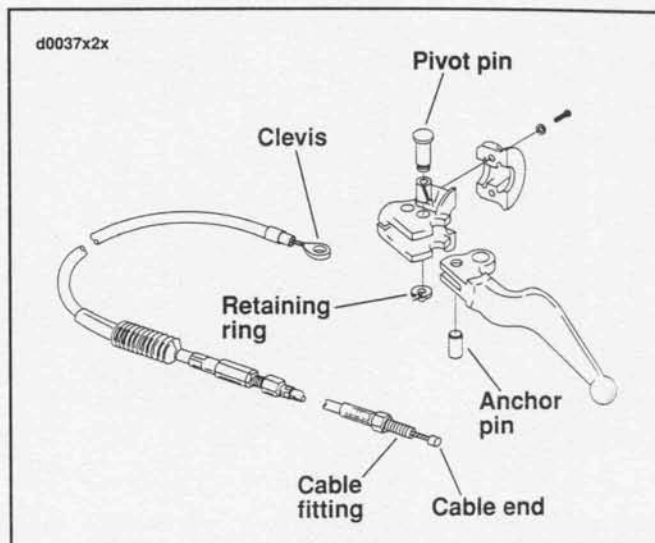

Figure 2-87. Clutch Cable Installation
4. See Figure 2-87. Remove hand lever pivot pin.
1. See Figure 2-87. Install the clutch cable and anchor pin in the clutch hand lever. The flat in the pin must face in towards the hand lever.